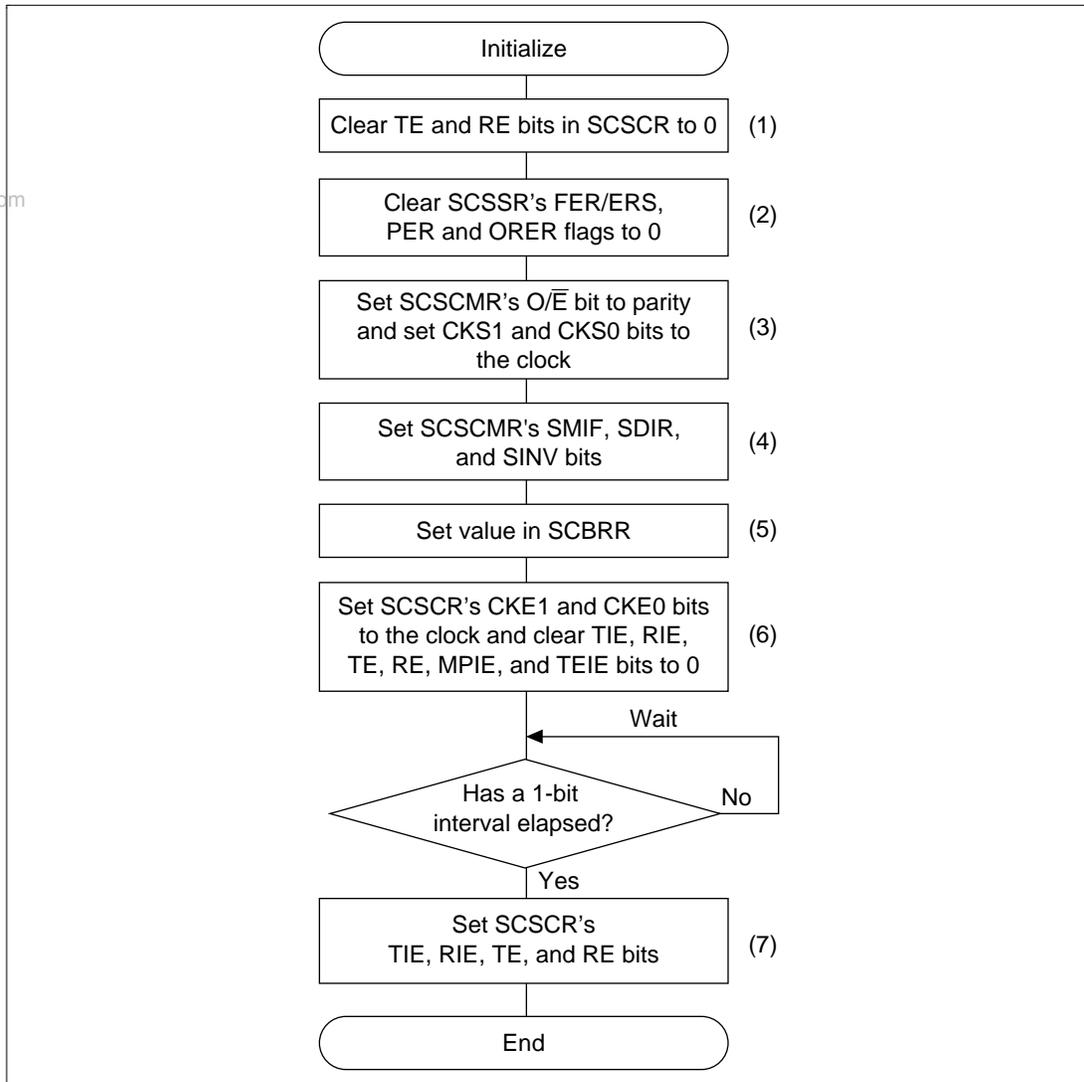

Figure 14.5 Initialization Flowchart (Example)
**Initialization:** Initialize the SCI using the following procedure before sending or receiving data. Initialization is also required for switching from transmit mode to receive mode or from receive mode to transmit mode. Figure 14.5 shows a flowchart of the initialization process.
1. Initialize the smart card interface mode as described above in Initialization and in figure 14.5.